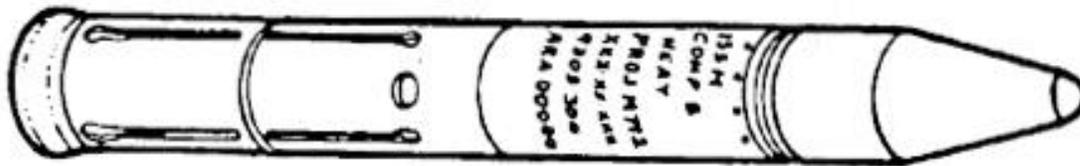

Figure 2-22. M712 (CLGP) projectile (fins and wings retracted)
m. **Projectile, 155-mm, HEAT, M712 (Copperhead).** This projectile is a cannon-launched guided projectile (CLGP). It is a High Explosive Anti-Tank (HEAT) projectile loaded with 14.75 pounds (6.69 kilograms (kg)) of Composition B. It is guided to its target by a laser beam directed on the target from a laser designator. The projectile has five time and code switches set by the crew before firing. The warhead section of the projectile contains its own base-detonating fuze (M740). The projectile is 54 inches (137.16 centimeters (cm)) long and weighs 138 pounds (62.60 kg) (Figure 2-22).